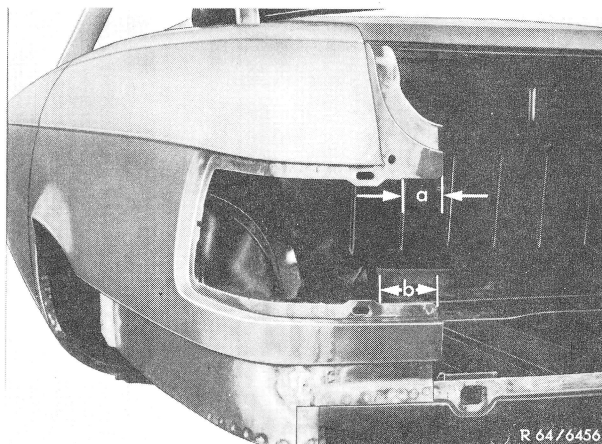

Figure 1
- 6 Separate rear center piece with hand saw as shown in Fig. 1.